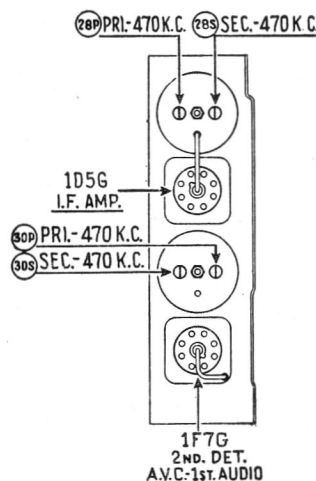

Fig. 2—I. F. Compensators, Top of Chassis
Philco Fibre Handle Screwdriver No. 27-7059 and Variable Condenser Part No. 45-2325 complete the necessary equipment for these adjustments. The locations of the various compensators are shown in Figs. 2, 3 and 4.
3. Adjust compensators (30S), (30P), (28S), and (28P) for maximum output, see Fig. 2.